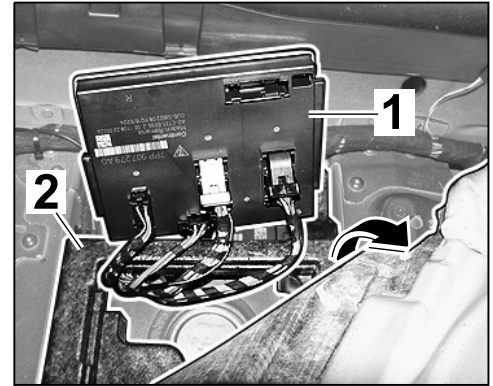

Figure 11
- 2.4.2 Fold carpet ⇒ *Figure 11 -arrow-* aside.